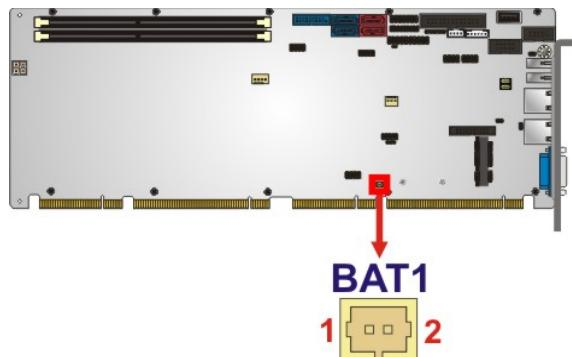

Figure 3-4: Battery Connector Location
**CN Location:** See Figure 3-4